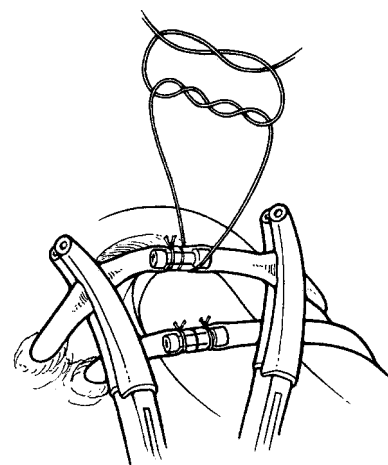

Figure 4-23. Suture Connector
5. Use a double-throw overhand surgeon's knot followed by a minimum of two single throws to attach tubing to connector (**Figure 4-23**).